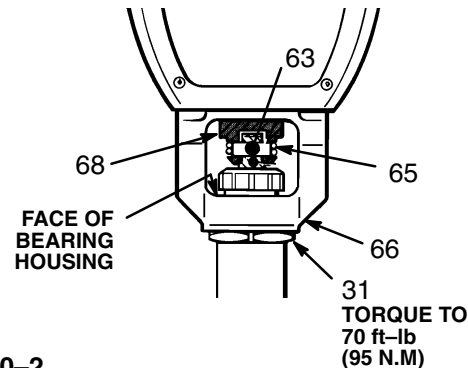

Fig 30-2
11. Screw the displacement pump 3/4 of the way into the bearing housing (8). Hold the pin (63) up to the pin hole in the connecting rod (68). Screw in the pump until the pin slides easily into the hole. Back off the pump until the top threads of the pump cylinder are flush with the face of the bearing housing and the outlet adapter (67) is facing back. Push the retaining spring (65) into the groove all the way around the connecting rod. Tighten the locknut (31) very tight – about 70 ft-lb (95 N.m) – with a 2 in. open end wrench and a light hammer. See Fig 30-2.
Be sure the retaining spring (65) is firmly in the groove all the way around, to prevent the pin (63) from working loose due to vibration. See Fig 30-2.